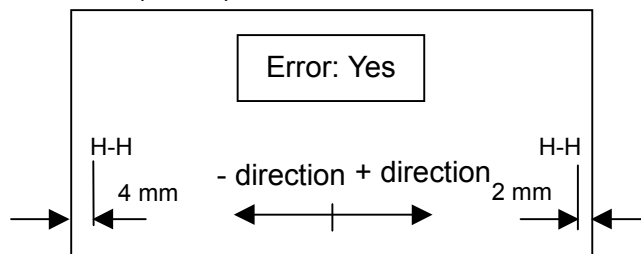

Figure 5-223
- 5) In the case of an error of several mm, perform correction. In the situations shown in Figure 5-223, correction of "-4 mm" on the leading edge side, and correction of "+2 mm" on the trail edge side, are required. To move to the left, use "-" (minus)".